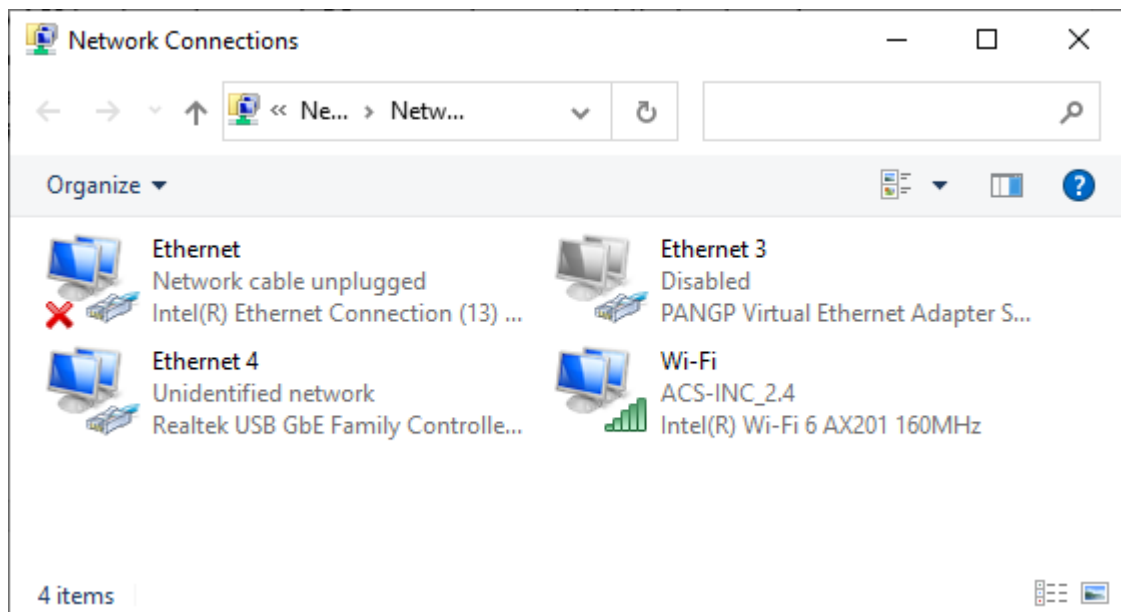

Figure 3-1. Network Connections Window
1. In the Windows search bar, type **View Network Connections**, and open the control panel window when prompted (see Figure 3-1).